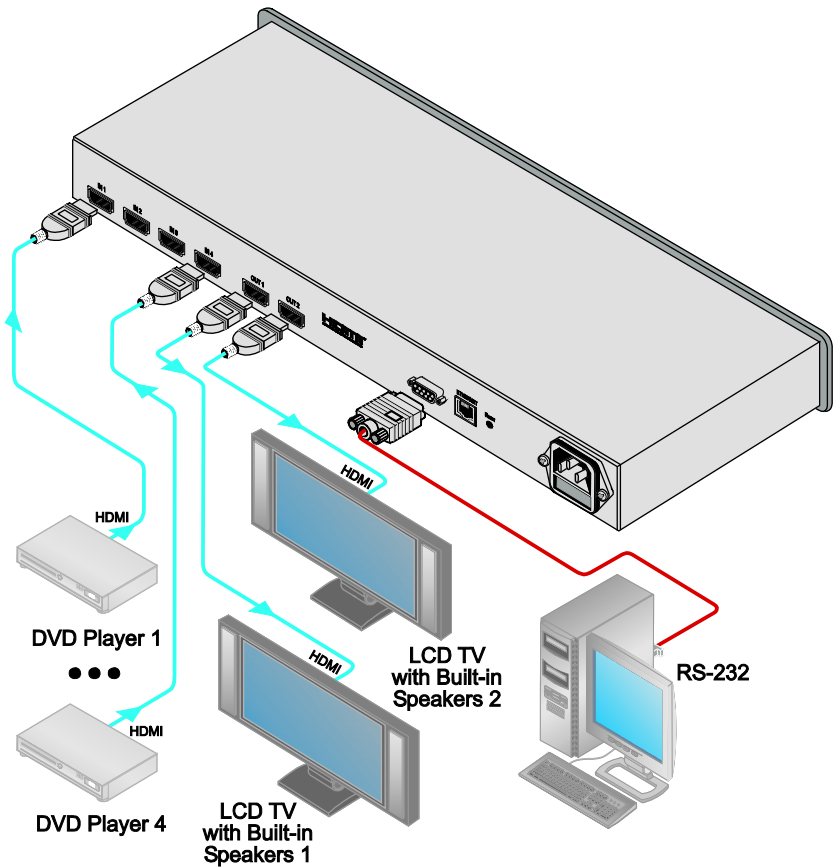

Figure 2: Connecting a VS-42H 4x2 HDMI Matrix Switcher
To connect the **VS-42H 4x2 HDMI Matrix Switcher**, as illustrated in the example in Figure 2, do the following¹:
4. Connect the power connector to the mains electricity (not shown in Figure 2).